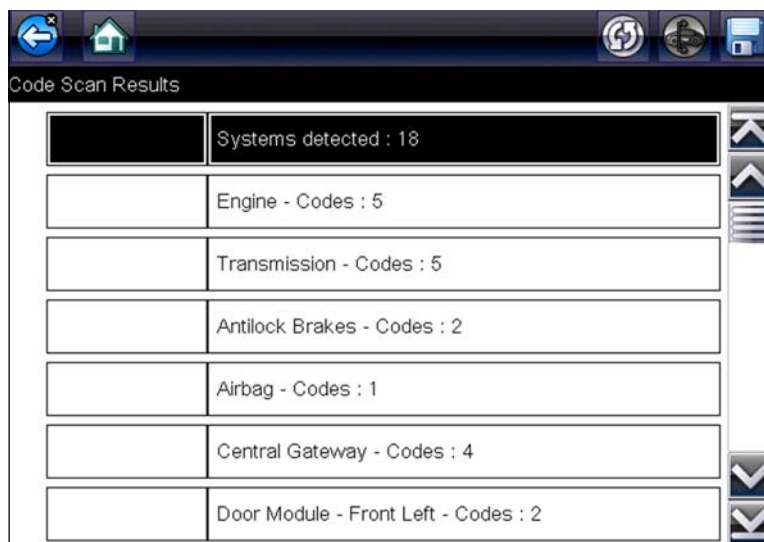

Figure 5-8 Code Scan systems analyzed result total
Depending on the vehicle, Code Scan (if supported) may be available from the Systems menu. Selecting **Code Scan** starts an active scan of vehicle control modules, and opens the Code Scan results screen (Figure 5-8). A progress indicator is shown at the top indicating the active scanning progress. Once completed, the results are displayed by system category.
- **The total number of systems (modules) detected** (Figure 5-8).